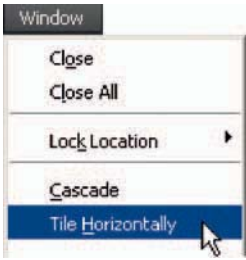
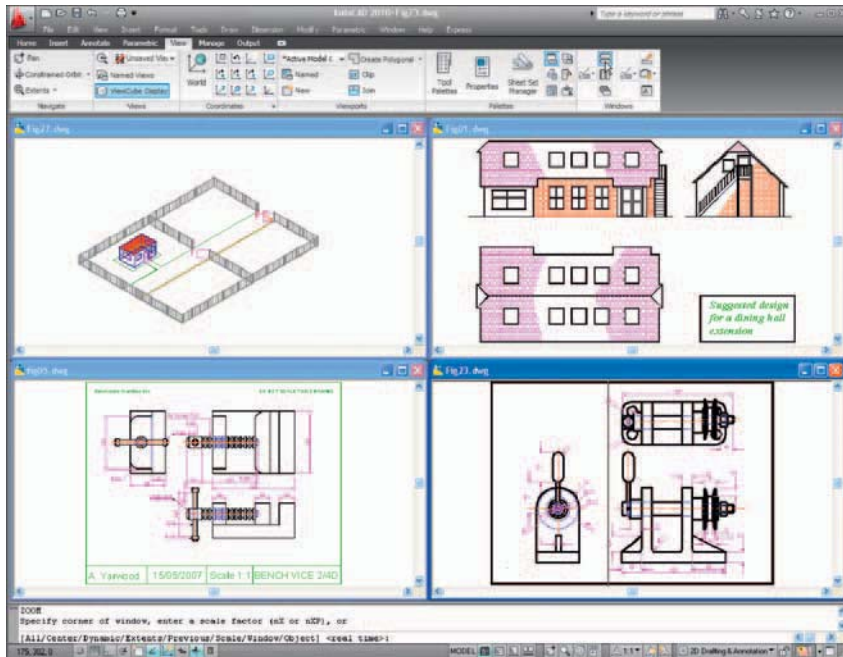

Fig. 10.23 Selecting **Tile Horizontally** from the **View/Windows** panel
Fig. 10.24 Four drawings in the **Multiple Document Environment**
2. In the **View/Window** panel, click **Tile Horizontally** (Fig. 10.23). The four drawings rearrange as shown in Fig. 10.24.